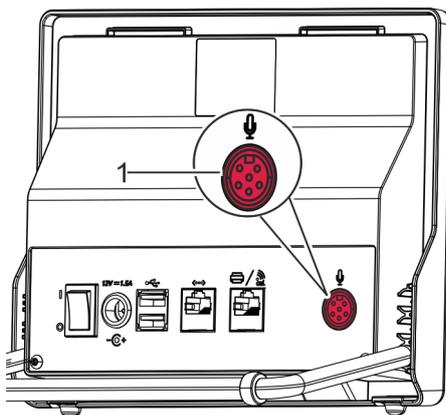

Fig. 39: Removing the microphone cable
2. → Remove the microphone cable from the microphone socket (Fig. 39/1).